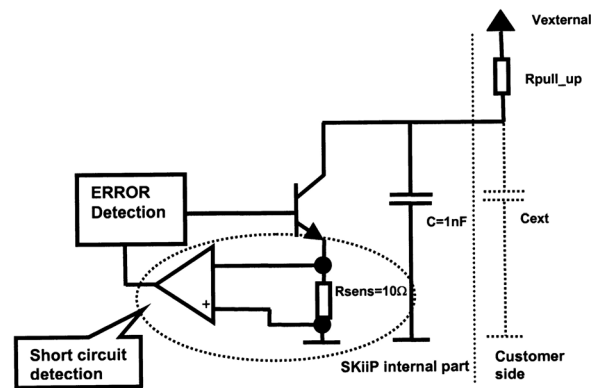

Fig. 10 SKiiP2 - Open Collector Error Transistor
- Fig 10 illuminates the principle of the Error output for SKiiP 2. The error transistor is an ordinary open collector transistor. The resistor  $R_{sens}$  acts as sensor for the short circuit protection. In case that the current exceeds the specified  $I_{max} = 15 mA$  the transistor will be turned off and the error signal can be detected by the